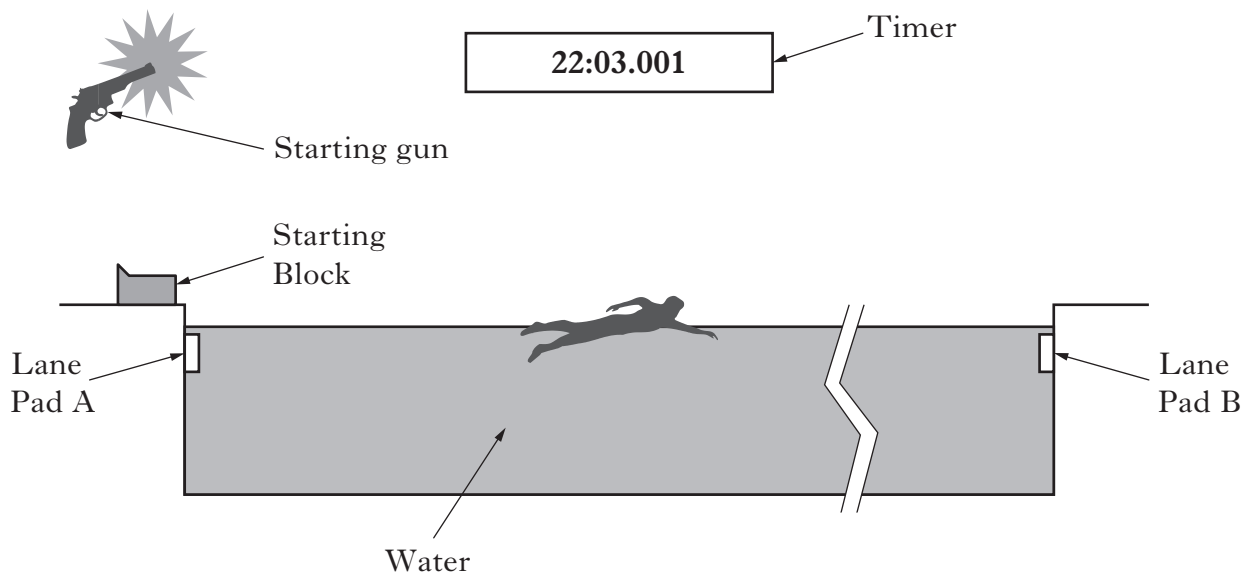

Figure Q9
9. Figure Q9 shows a simplified schematic diagram of a sensing system used in an Olympic swimming pool. The system comprises Starting Block, Lane Pad A, Lane Pad B and Timer which are used to record the start and end times during the swimming events.